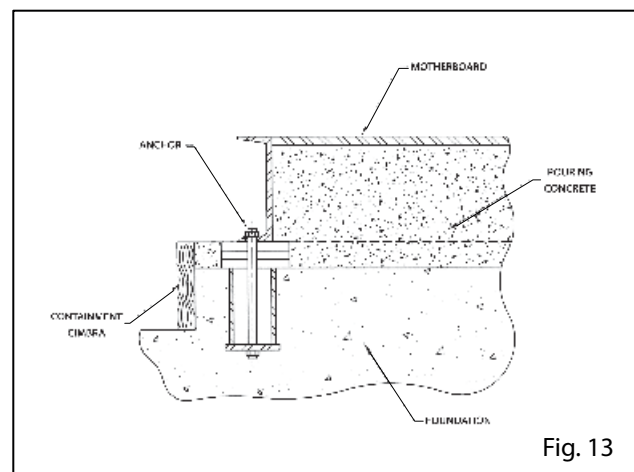

Fig. 13
- 6.- Make the second concrete pouring filling the whole base plate (see Figure 13).